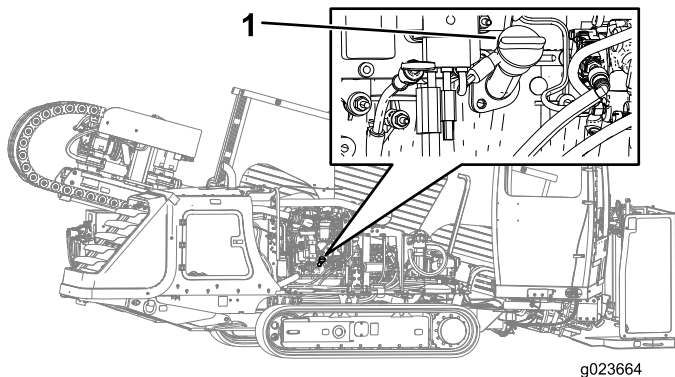

Figure 122
- A. Remove the fill cap (Figure 122) and add oil until the level reaches the High mark. **Do not overfill.**